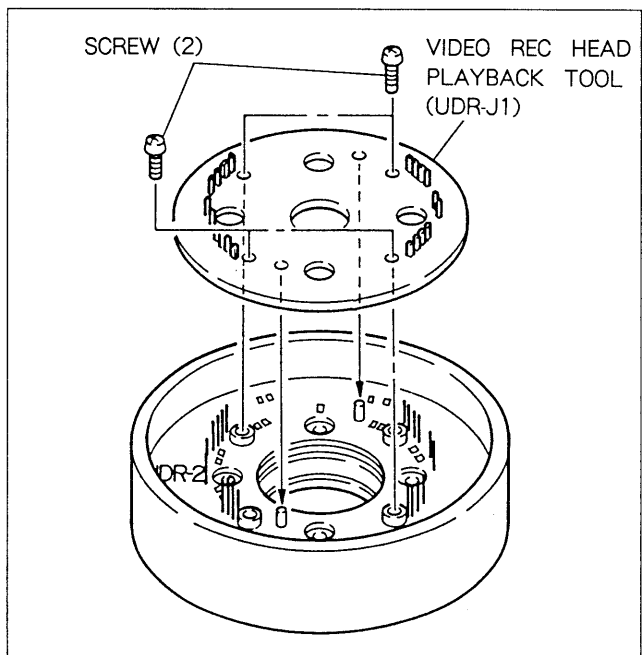

Fig. 9-11-2. Video REC Head Playback Tool Installation (2)
- (3) Install the video REC head playback tool (UDR-J1) with four screws (2) as shown in Fig. 9-11-2.